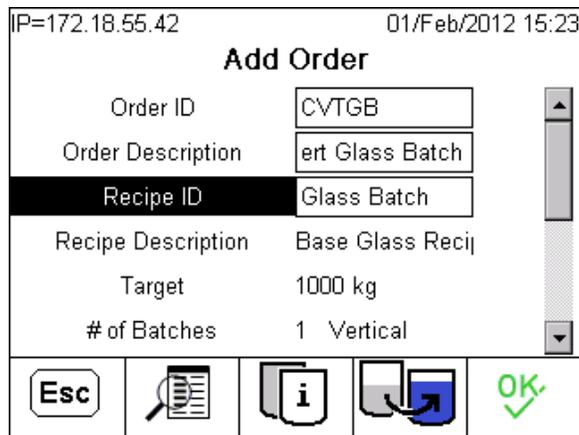

Figure 12-30: Add Order Screen
2. In the **Add Order** screen, enter an **Order ID** and **Description**, and then select the original master recipe that was running when the batch aborted. In this case, this is a recipe with the ID **Glass Batch**. Figure 12-30 shows this information. Next, press the CONVERT BATCH  softkey to start the Convert process from the batch terminal.
- The **Convert Batch** screen (Figure 12-30) will open, which allows the batch for conversion to be specified. Press the TABLE SEARCH softkey  to search for the Batch ID from the history records.